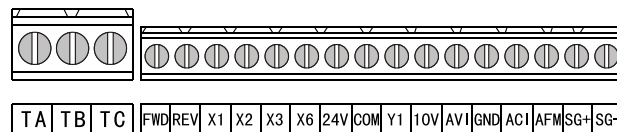

Fig 3-7 Terminals of control circuit
1、The terminal of control circuit shown in Fig 3-7.